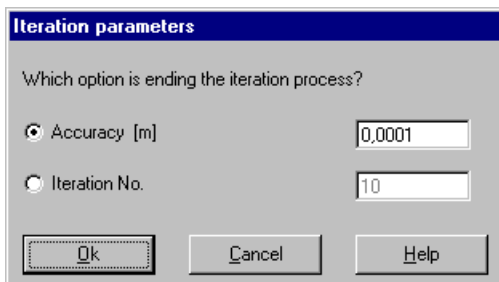

Figure 3-38 "Iteration parameters" option box
- Choose "Computation of all" command from "Calculation" menu in *ELPLA-Solver* Window. The following "Iteration parameters" option box in Figure 3-38 appears